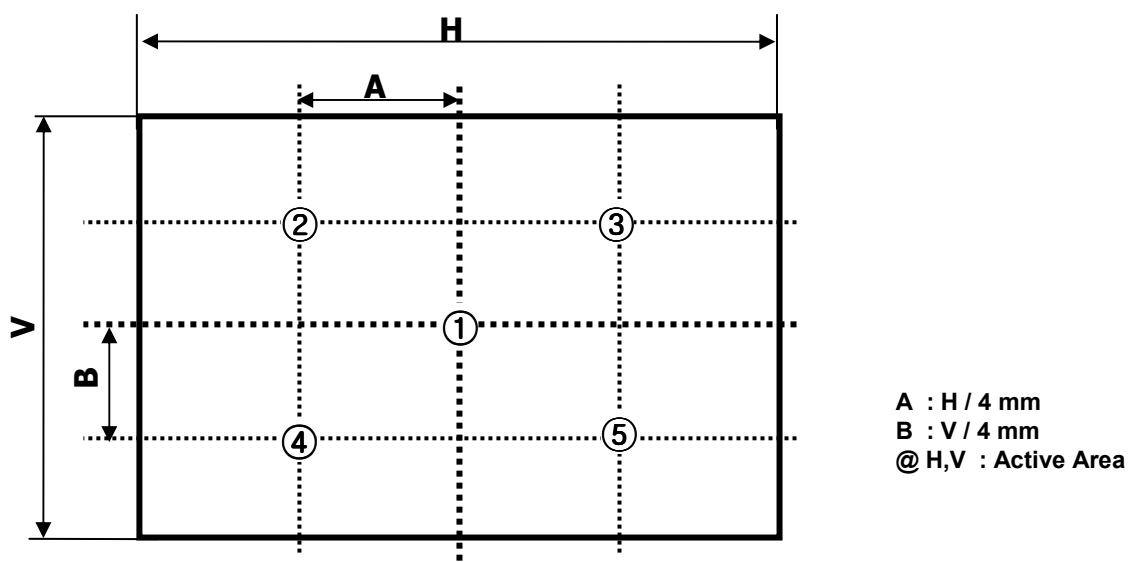

FIG. 2 5 Points for Luminance Measure
n = the Position number(1, 2, 3, 4, 5). For more information, see FIG 2.
2. Surface luminance is determined after the unit has been 'ON' and 1 Hour after lighting the backlight in a dark environment at  $25 \pm 2^\circ\text{C}$ . Surface luminance is the luminance value at center 1-point across the LCD surface 50cm from the surface with all pixels displaying white. For more information see the FIG. 2.
For more information, see the FIG. 2.